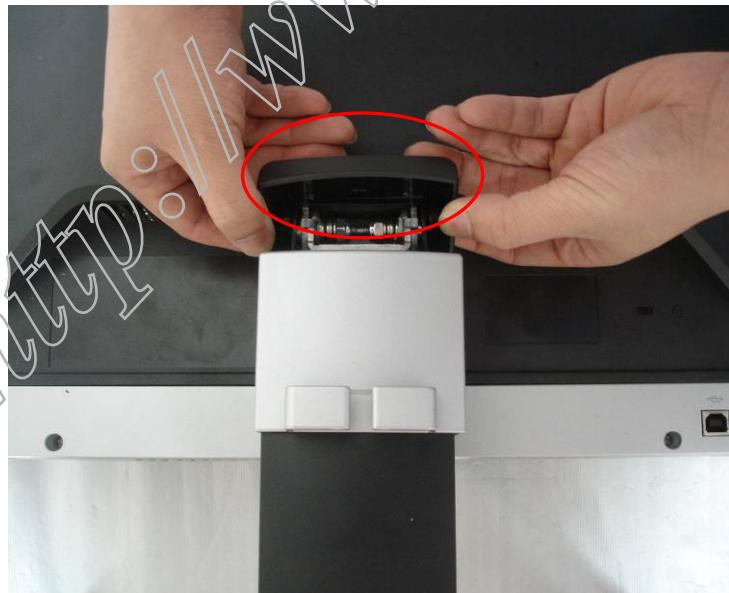

Fig.2
**2. Remove hinge cover as Fig.2.**
Remove the hinge cover as Fig.2